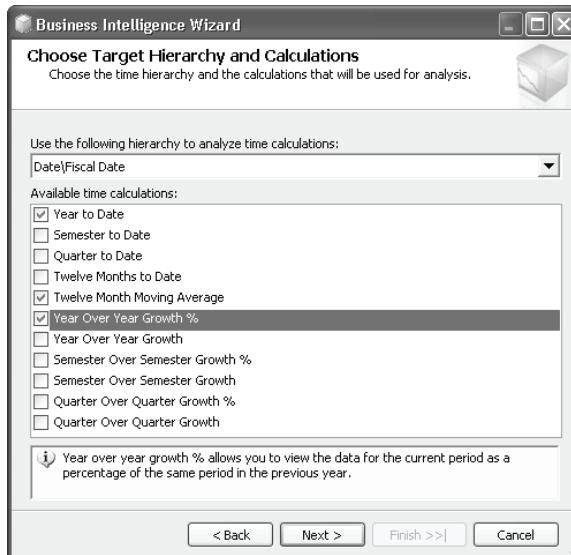

Figure 10.24 The Business Intelligence Wizard supports several commonly used time calculations.
2. Click *Next* to advance to the Choose Enhancement step and select the *Define time Intelligence* option (the first item on the list). Click *Next* to move to the Choose Target Hierarchy and Calculations step (Figure 10.24).